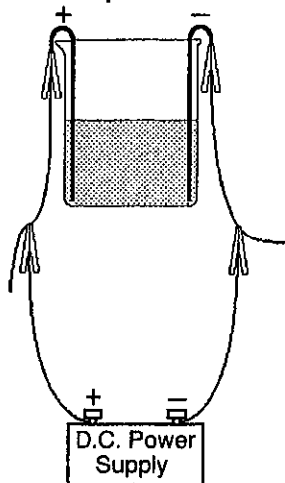
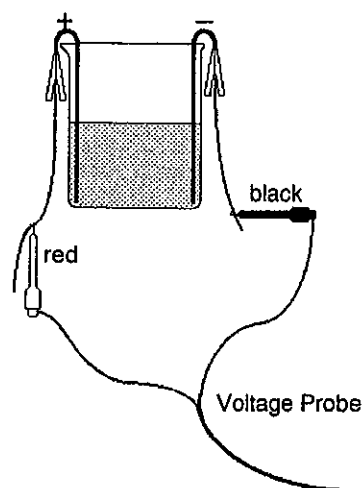

Figure 1
Figure 2
Two or more wet or dry cells connected in series make a battery. A car battery is generally a lead storage battery containing lead and lead oxide plates in sulfuric acid solution. In this experiment, you will construct a lead storage cell and use a direct-current power supply to charge it as shown in Figure 1. You will use the computer and a Voltage Probe to measure the cell's voltage (see Figure 2), and then use the cell to power an electric motor.
2. Obtain two lead strips. If the strips have been used before, get one labeled (+) and one labeled (-). If the strips are not marked, label one (+) and the other (-). Bend the strips and place them in a 250 mL beaker as shown in Figure 1. Attach an alligator clip to each lead strip.
- a. Attach the (-) lead from the power supply to the alligator clip on the (-) Pb electrode as shown in Figure 1.